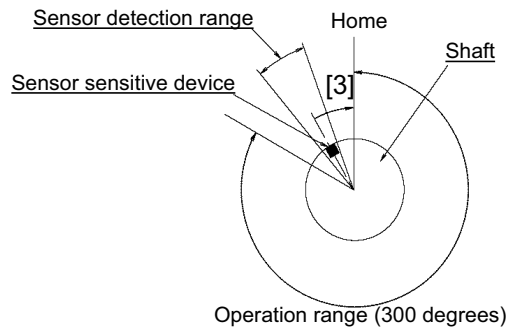

Figure 2
- 2) If the shaft detects the sensor at the home-return start (when the shaft is rotated over 300 degrees by hand at the servo off), it rotates clockwise from the stopped position ([3]), and stops when the Z-phase is detected. (Refer to Figure 2.)